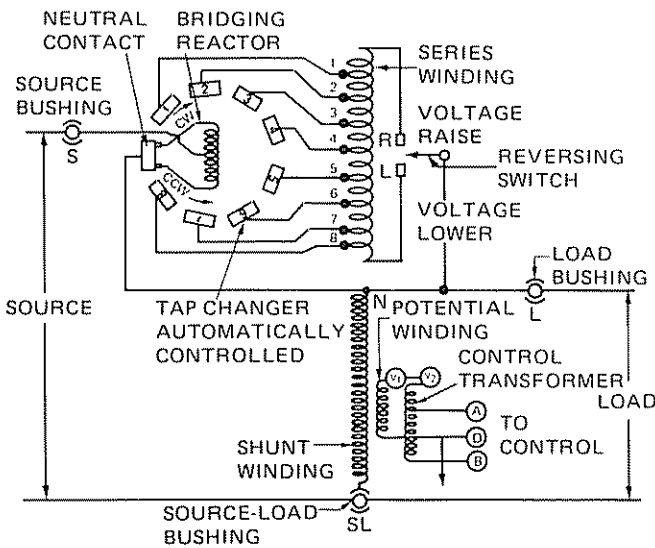

Figure 3
Figure 3 illustrates the autotransformer circuit of a 32-step regulator which consists of a tapped series winding, a shunt winding across the regulator output terminals, and a potential winding closely coupled to the shunt winding.
The bridge reactor assures smooth tap changes without current interruption or voltage dip. When the movable contacts are on neutral (Figure 3), no regulation occurs. When one movable contact is on neutral and the other is on Contact 1, only one-half of the 1 1/4% regulation occurs because the bridging reactor is tapped in the center. When both movable contacts are on Contact 1, 1 1/4% regulation occurs. As movable contacts travel from neutral to Contact 8, the tap changer passes through sixteen (16) 5/8% voltage steps. Because of the reversing switch, a total of 32 5/8% steps are obtained, ±10% regulation available.